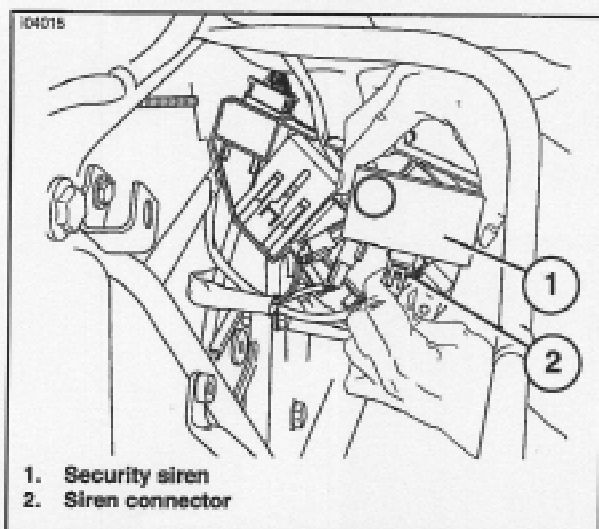

Figure 8. Insert Siren Connector (Touring Models)
5. See Figure 8. Obtain the siren box from the kit, and insert connector [142B] into the siren box receptacle until the connector latches securely.